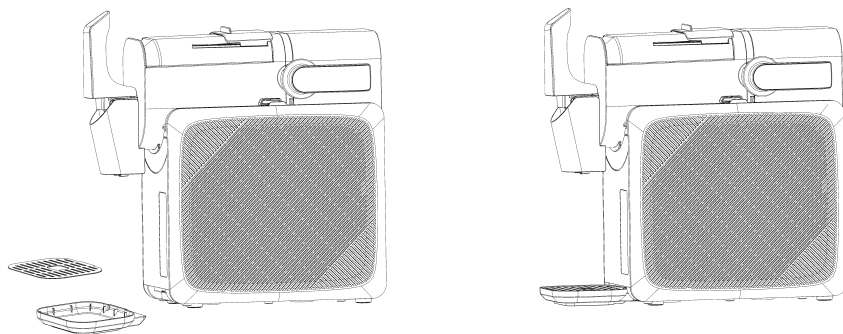

Fig. 3 Inserting the drip tray
2. Insert the drip tray (see fig. 3).